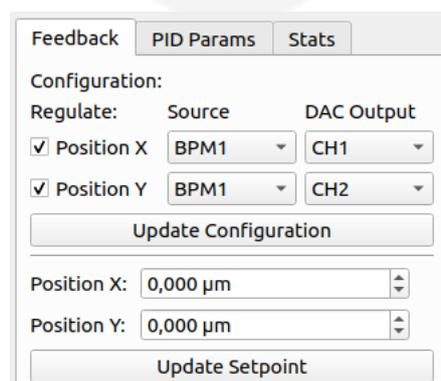

Figure 13: Feedback control section
- The *control* section tab (**Figure 13**), which groups all the main feedback control input/output parameters.